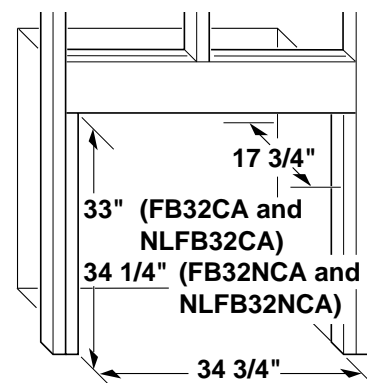
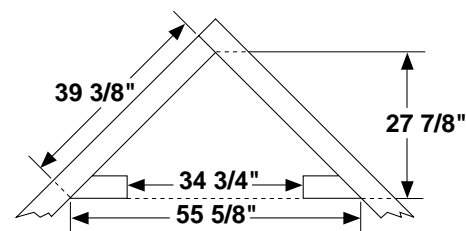

Figure 21 - Rough Opening for Installing in Wall
Figure 22 - Rough Opening for Installing in Corner
- Frame in rough opening. Use dimensions shown in Figure 21 for the rough opening
If installing in a corner, use dimensions shown in Figure 22 for the rough opening. The height is 33" (FB32CA and NLFB32C) or 34 1/4" (FB32NCA and NLFB32NC), which is the same as the wall opening in Figure 21.